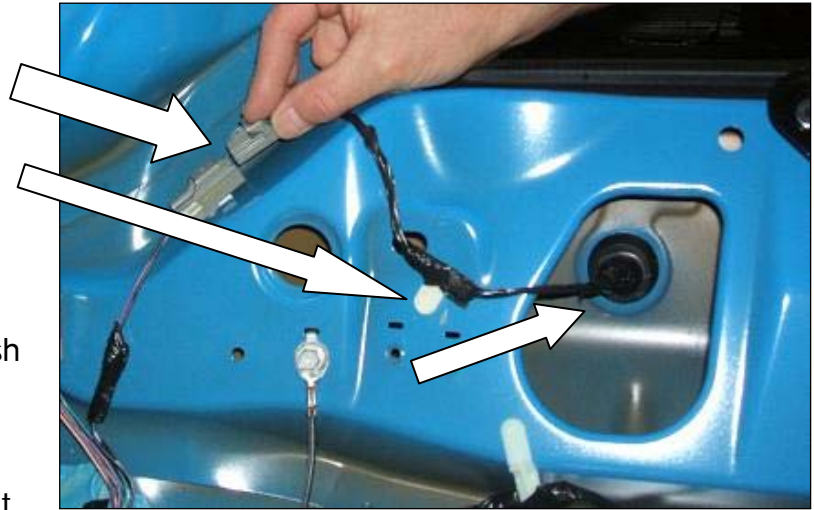

Figure 3
Refer to Figure 3 for steps 4, 5, 6 & 7.
25. With an assistant, position the rear fascia assembly to the rear of the Mustang. Feed the wire harness and connector through the grommet hole. Press and seat the grommet into place. Refer back to Figure 3.
35. Reconnect the license lamp / rear side markers connector to the body wiring harness connector. Reinstall the harness retainer into its hole. Refer back to Steps 4 & 5 and Figure 3.